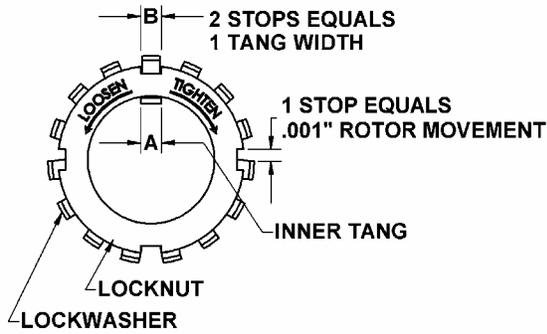

Figure 7 – Locknut Assembly
It is important that the bearing locknuts (24A) and lockwashers (24B) be installed and adjusted properly. Overtightening locknuts can cause bearing failure or a broken lockwasher tang. Loose locknuts will allow the rotor to shift against the discs (71), causing wear. See Figure 7.
- Tighten both locknuts (24B) to ensure that the bearings (24) are bottomed in the head recess. **DO NOT** overtighten and bend or shear the lockwasher inner tang.
- Tighten the opposite locknut (24A) by hand until it is snug against the bearing (24). Then, using a spanner wrench, tighten the nut the width of one lockwasher tang "B". Tighten just past the desired tang, then back off the nut to align the tang with the locknut slot. Secure the nut by bending the aligned lockwasher tang into the slot in the locknut. The pump should continue to turn freely when rotated by hand.
16. Inspect the grease seal (104) for wear or damage and replace as required. Grease the outside diameter of the grease seal and push it into the inboard bearing cover (27) or bracket mount (108) with the lip of the seal inward (towards the pump).
- Attach a new bearing cover gasket (26) and the inboard bearing cover (27) to the inboard head (20). Install the outboard bearing cover (27A) and a new gasket to the outboard head. Make sure the grease fittings (76) on the bearing covers are accessible. Install and torque the bearing cover capscrews (28) to 8 lbs ft (10.8 Nm).
- On flange mounted pumps, the bracket mount takes the place of the inboard bearing cover (27). To attach the bracket mount to the head, install a new bearing cover gasket (26) and the four mounting screws (28A).